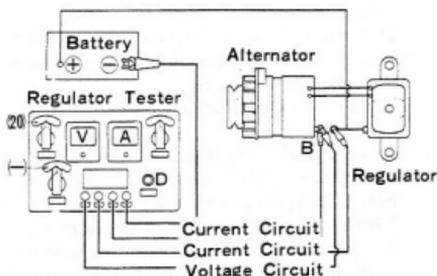

Fig.8-27 Test Circuit G0156
5. Make the same connection as shown in figure 8-27.
3. Disconnect the "B" terminal lead wire from the alternator and connect a voltmeter and an ammeter as shown in figure 8-27.